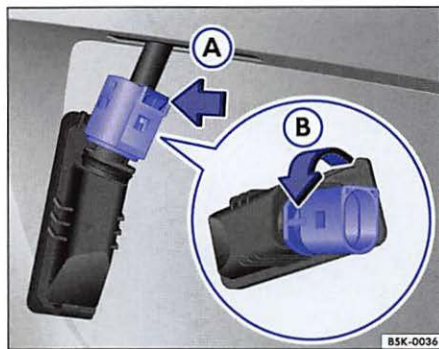

Fig. 177 License plate light: removing the bulb holder.
4.	Press the locking mechanism on the connector in the direction indicated by the arrow ⇒ fig. 177 (A) and disconnect the connector.
5.	Turn the bulb holder in the direction indicated by the arrow ⇒ fig. 177 (B).
7.	Insert the bulb holder in the license plate light and turn it counterclockwise in the direction indicated by the arrow ⇒ fig. 177 (B) until it stops.